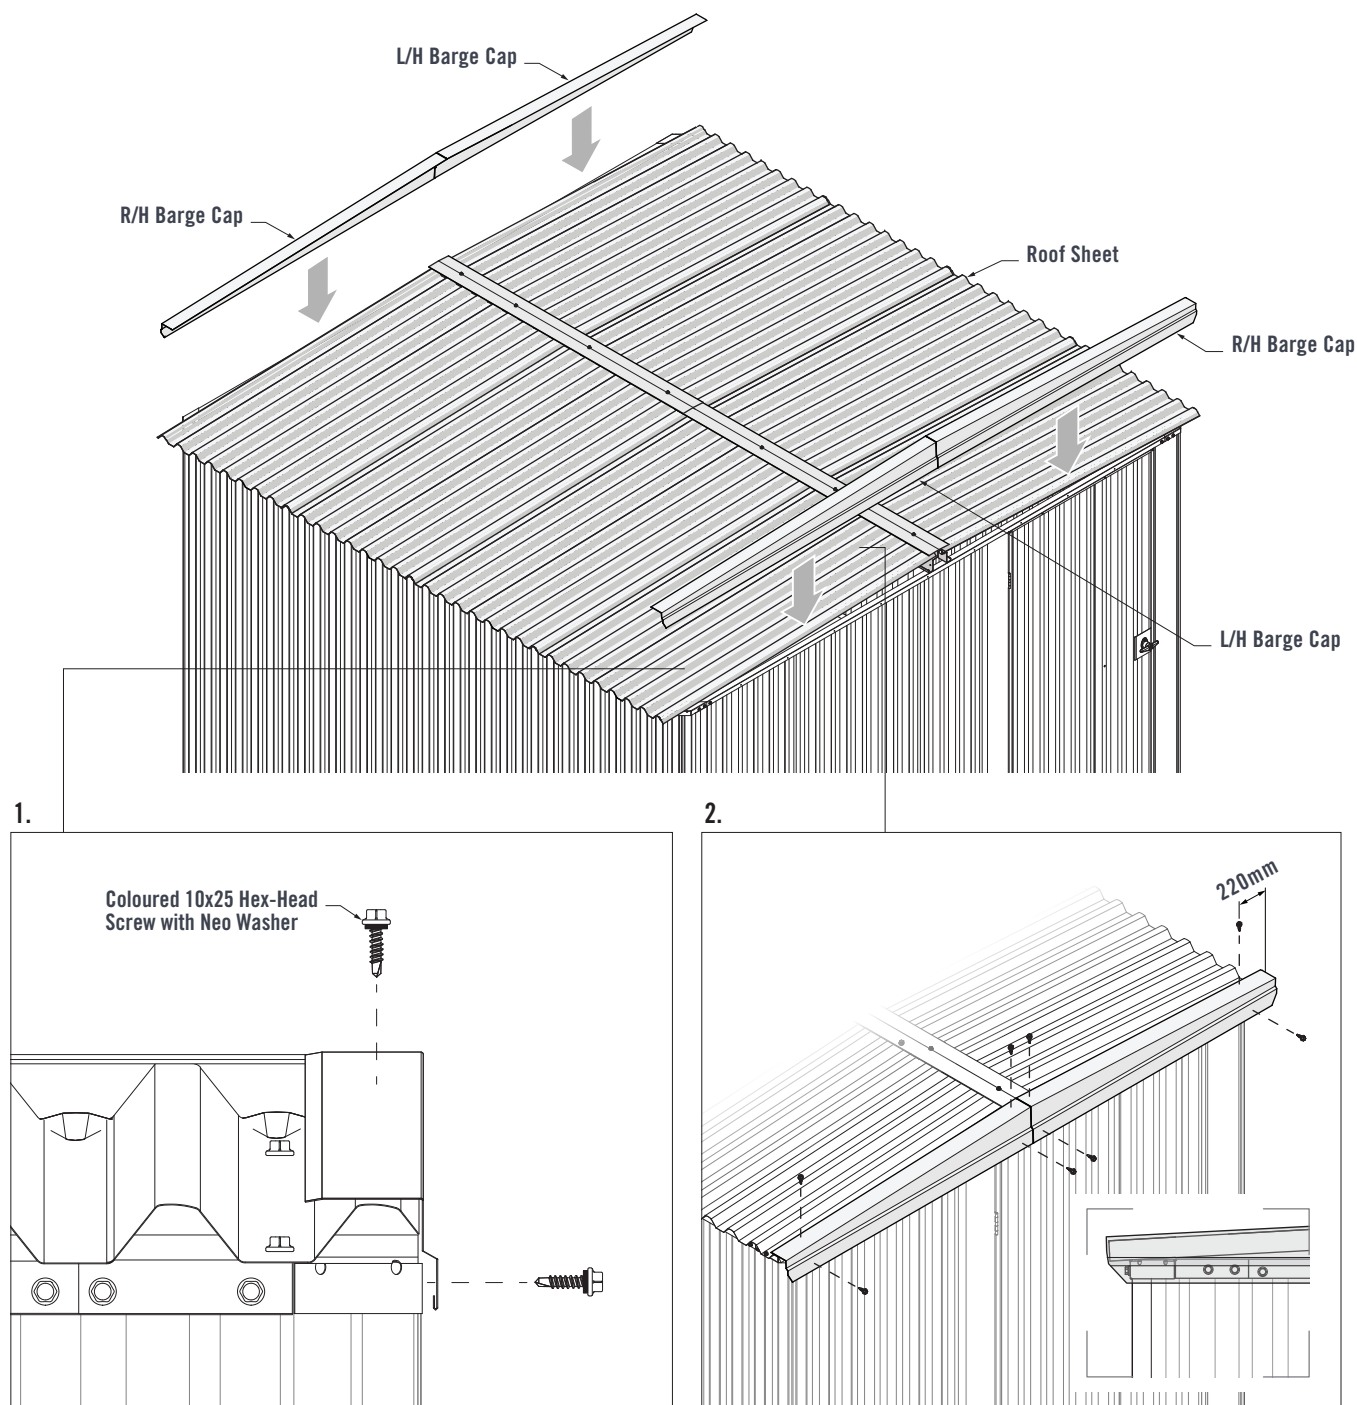

FIGURE 8.8
1. Place the L/H Barge Cap over the Roof Sheet at the front of the shed. The front face of the Barge Cap should fit up against the Roof Sheets (Figure 8.8).
2. The ends of the Barge Cap Should align with the end of the Roof Sheet. Fasten two coloured 10x25 Hex-Head Screws with Neo Washers through the front face of the Barge Cap and into the Wall Channel. Fasten two coloured 10x25 Hex-Head Screws with Neo Washers through the top of the Barge Cap and into the crests of the Roof Sheets (Figure 8.8).
Install the R/H Barge Cap in the same manner on the front right side of the shed. Install the remaining L/H and R/H Barge Caps to the rear of the shed in the same manner (Figure 8.8).